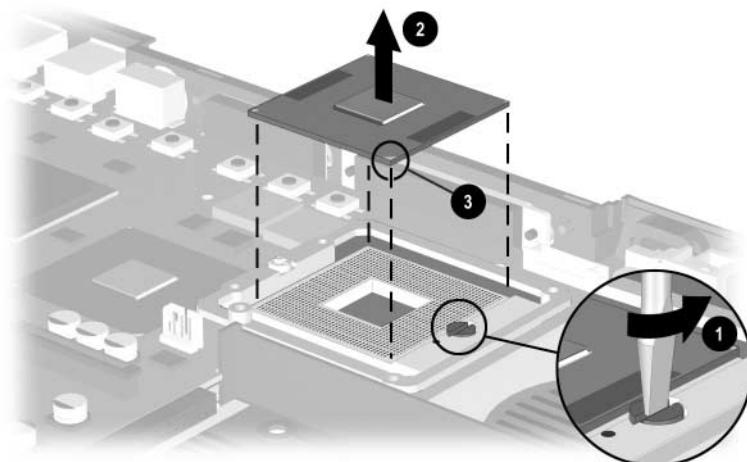

Figure 5-30. Removing the Processor
2. Use a flat-bladed tool to turn the processor locking screw ① one-half turn counterclockwise (Figure 5-30).
3. Lift the processor straight up and remove it ②.